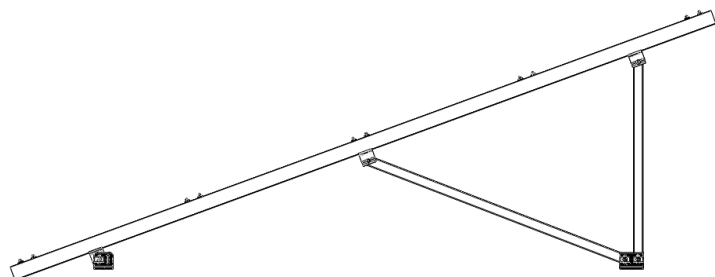

Figure14
Unlock the M12*85 Bolt from the Slot U-Shape Joint. Insert the free end Rectangular Tube into the Slot U-Shape Joint and lightly lock them with M12*85 Bolt. Here, please note the orientation of the bolt, make sure its head is in the same side with other bolts. Rotate the Corrugated L-anchor Plates to make them in a same horizontal plane, as shown in Figure 14.
4.2.5 According to engineering drawing, repeat the above operations to install other Pre-assembled Support. Ensure all the Two-Groove Square Girders of Pre-assembled Support are aligned and all Pre-assembled Support are parallel to each other. Unlock M16*50 or M12*100 bolts to adjust the position, if necessary, as shown in Figure14.